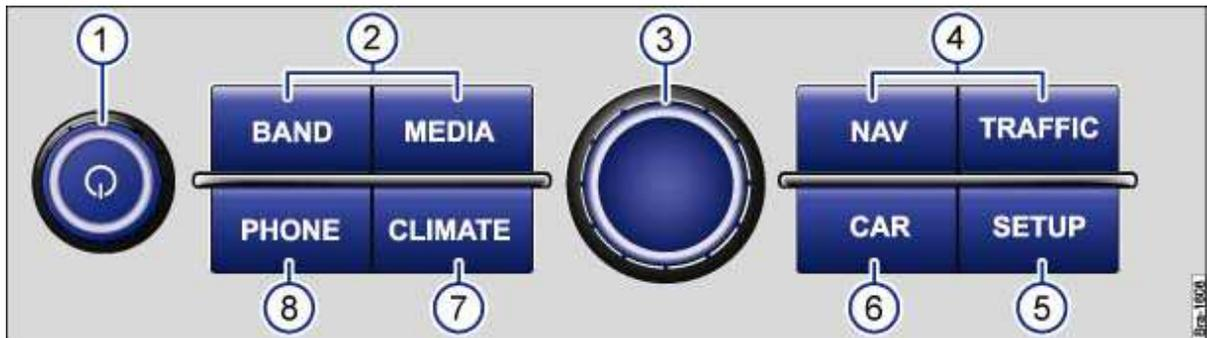

Fig. 123 Overview of rotary/push knobs and the Infotainment buttons.
To switch the unit on or off manually, briefly press the  rotary/push knob ⇒ fig. 123 \(1\).
Increase volume.	Turn the volume control  ⇒ fig. 123 (1) clockwise or press the button  on the multi-function steering wheel ⇒ page 9 .